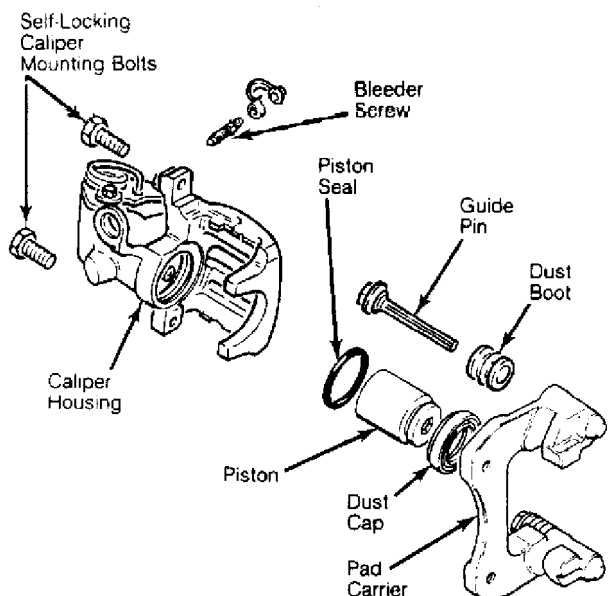

Fig. 8: Exploded View Of Rear Caliper
1) Lightly coat piston and seals with brake paste. Install piston seal in groove of caliper bore. Fit outer lip of dust cap onto piston. Inner lip of dust cap must be fitted into groove in caliper housing bore. See Fig. 8.